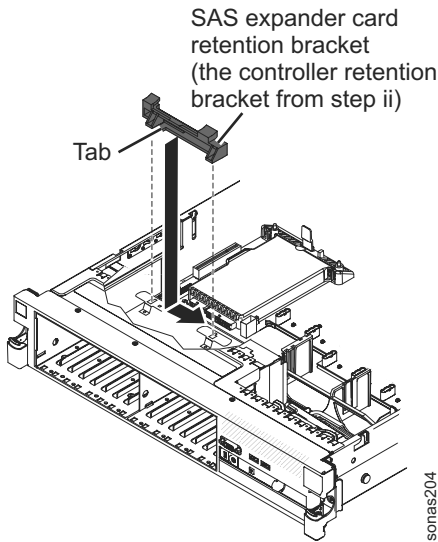

Figure 25. Installing the controller retention bracket
- 3) Install the controller retention bracket from step ii by aligning the retention bracket controller slot and then placing the bracket tabs in the holes on the chassis, and slide the bracket to the left until it clicks into place. See Figure 25 on page 122.